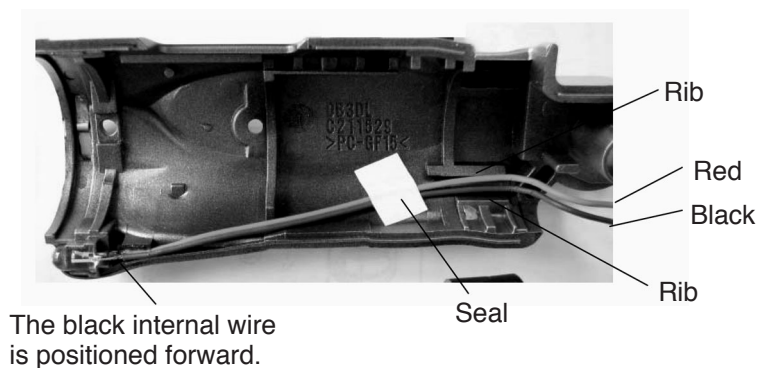

Fig. 12
(b) Mount the LED to Housing (A). (B) Set [32] and fix the internal wires with the seal. Put the internal wires of the LED between the ribs of Housing (A). (B) Set [32]. (See Fig. 12.)